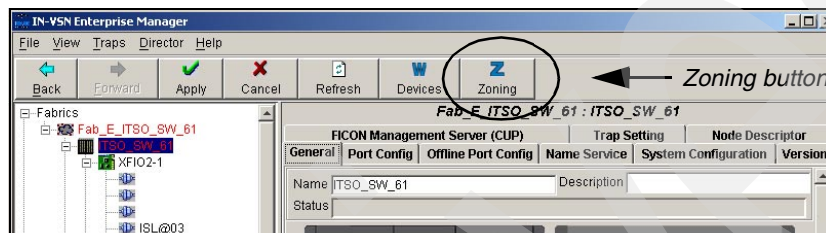

Figure 5-21 Zoning button
1. Click the **Zoning** button in the upper part of the EM window (see Figure 5-21).